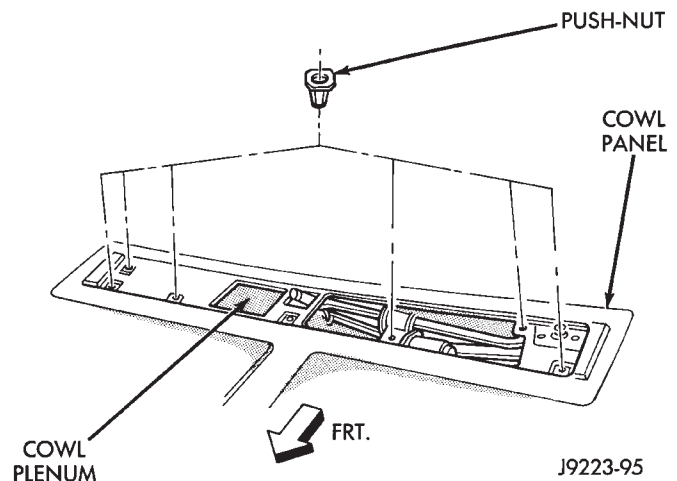

Fig. 29 Cowl Grille Push-Nuts
(6) If necessary, remove the cowl grille push-nuts from the cowl panel (Fig. 29).